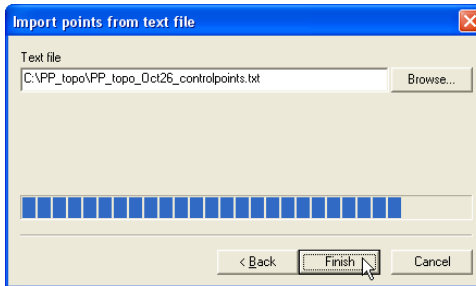

Figure 2-5. Open Control Point Text File
- Click **Finish** to import the control points (Figure 2-5). The information from the selected file is added to the 3D Project file.